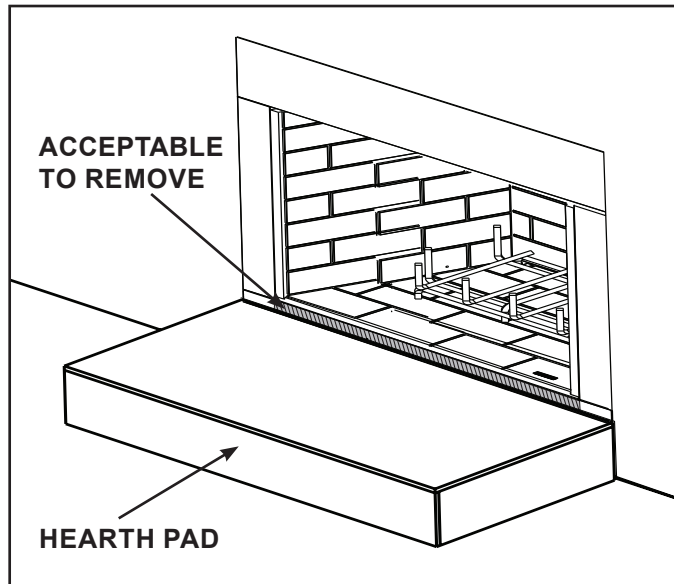

Figure 3.7 Solid Fuel Firebox
Minimum fireplace opening requirements for a standard 3/4 inch deep surround are shown in Figure 3.7. For smaller openings, a custom surround is available.
- A metal lip protruding above the hearth pad of the solid fuel firebox may be removed. See Figure 3.7.